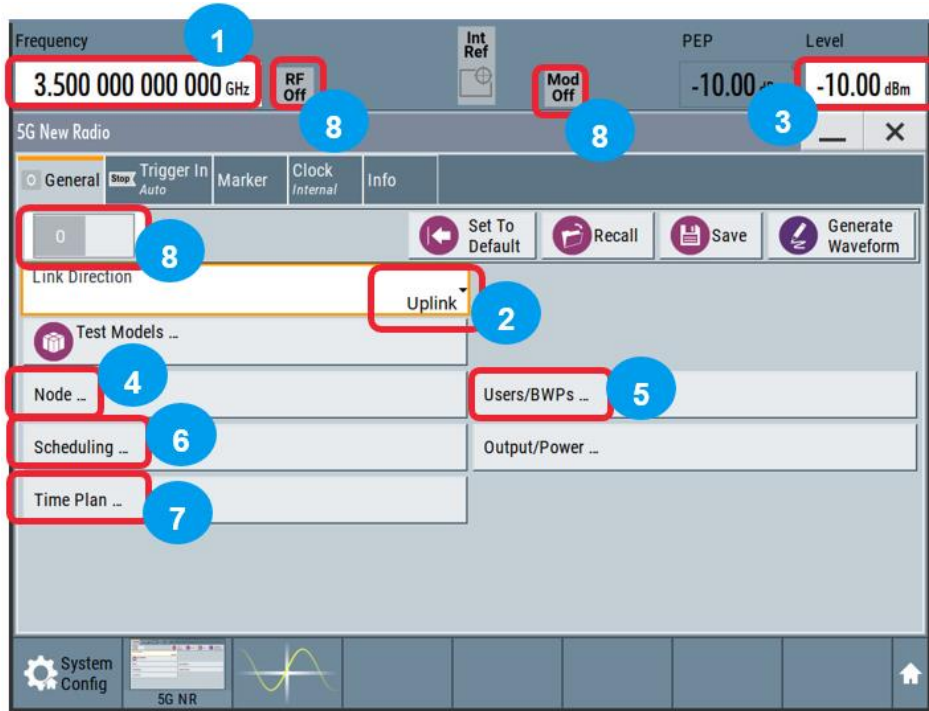
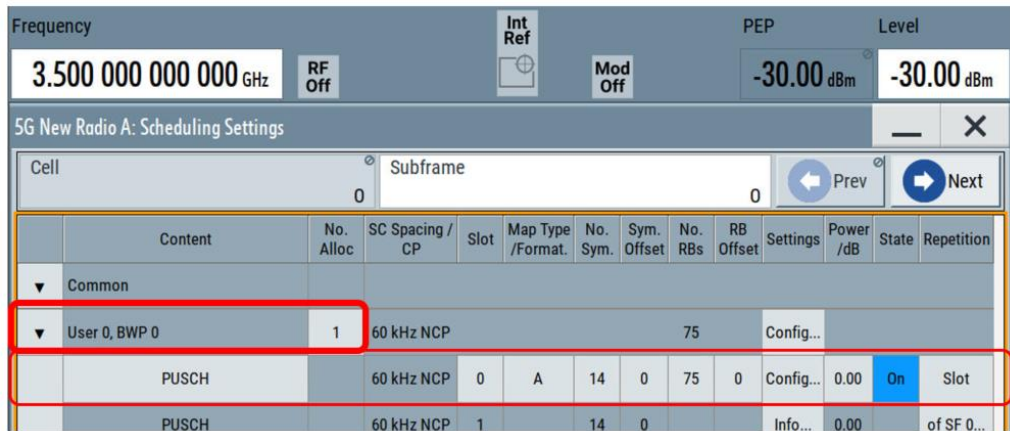
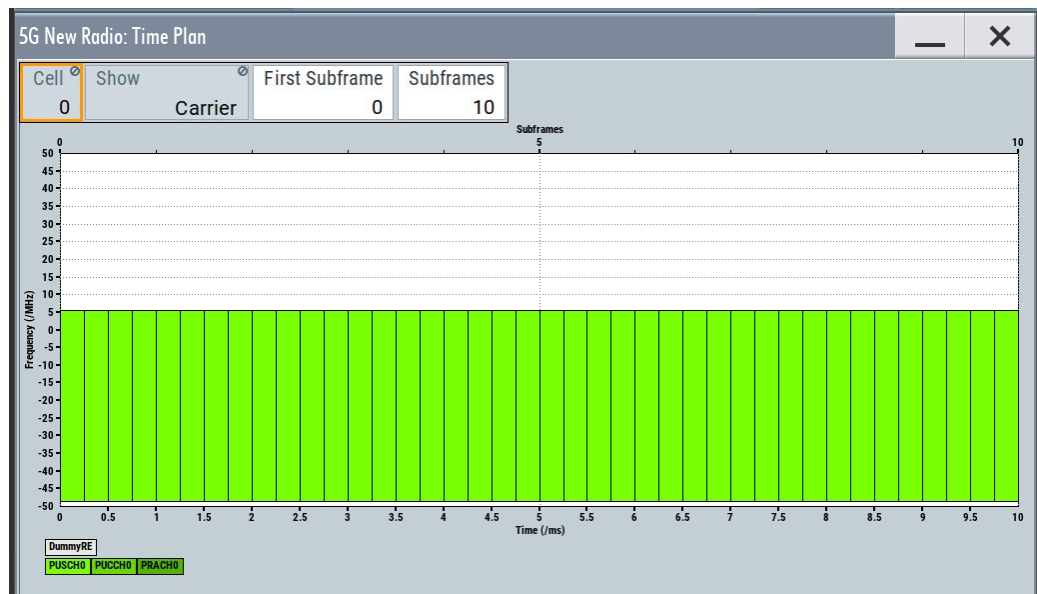

Fig. 2-22: 5G NR main uplink configuration window on the SMW
Fig. 2-26: Scheduling setting for the BWP
Fig. 2-27: Uplink signal parameter setting as visualized on the Time Plan window
Fig. 2-22 shows the main configuration window of the 5G NR physical layer baseband signal generation. The steps numbers are marked in correct order in the figure to configure the physical layer uplink parameters. Following Fig. 2-22:
4. Node configuration settings from Fig. 2-22
6. Now the BWP needs to be configured separately from the scheduling window in Fig. 2-22. The BWP configuration is shown in Fig. 2-26.
7. The time plan (from Fig. 2-22) window shown in Fig. 2-27 depicts a graphical overview of the configured physical layer parameters.
8. Switch ON the Baseband signal, Modulator and RF using the buttons as marked on Fig. 2-22.